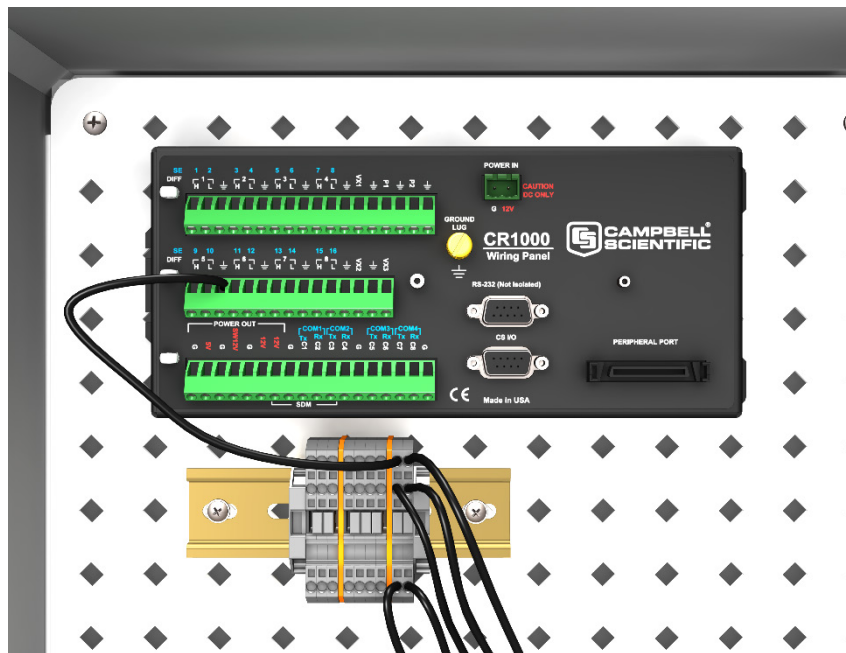
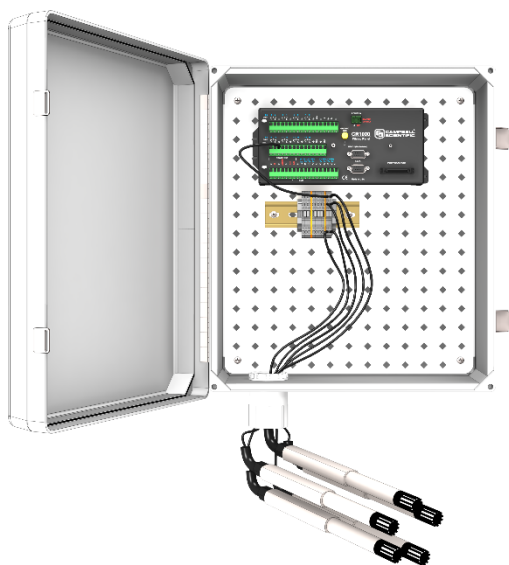

FIGURE B-6. An installed and wired 25458 DIN-Rail Mounting Kit
FIGURE B-7. The 25458 DIN-Rail Mounting Kit facilitates wiring of multiple sensors
4. Connect the wires to the terminals (see FIGURE B-6 and FIGURE B-7). The 8125 Flat-Bladed Screwdriver is used to open the terminals' guillotines for wire entry.